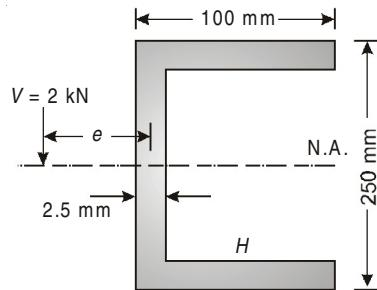

Fig. 12.25
12.2. Determine the distance of shear center for section shown in Fig. 12.25.